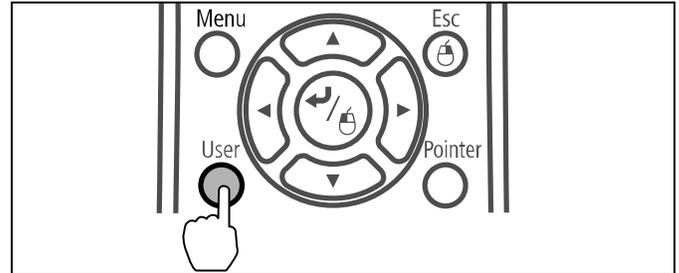

Figure 30
1. Using the remote control, select **User** button. (See Figure 30)